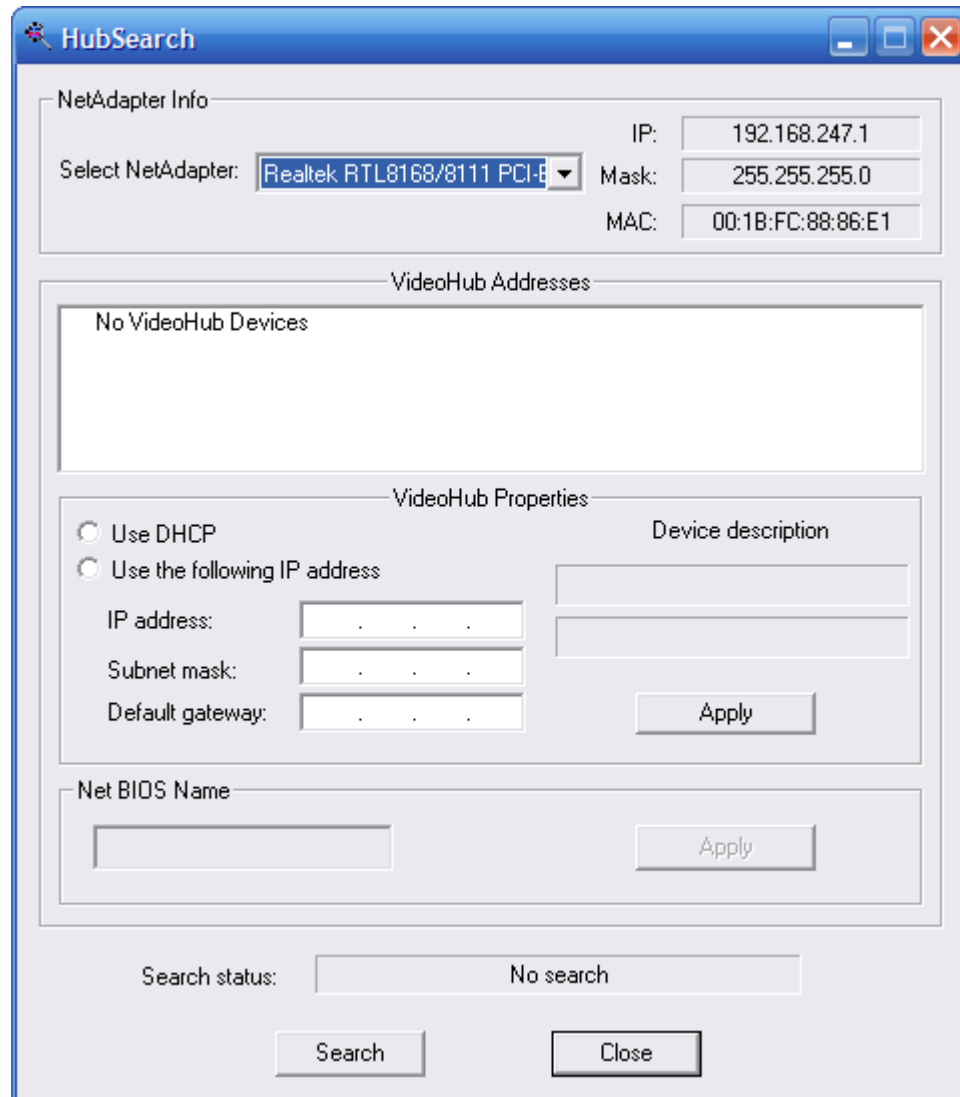

Figure 7.2-1 Selecting the network adapter
2. Select the network adapter through which your computer is connected to the LAN to which the LS (LH) is connected (the **Select NetAdapter** drop-down list) and click **Search** (Figure 7.2-1).